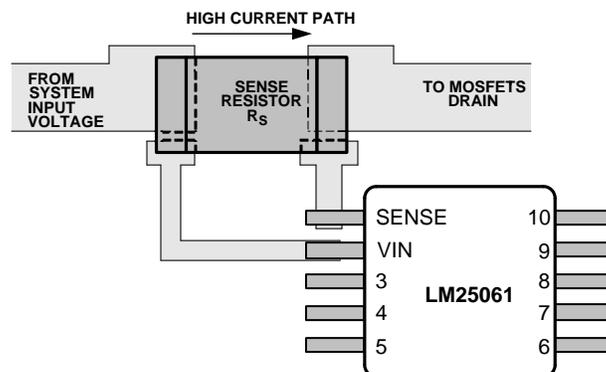

Figure 27. Sense Resistor Connections
While the maximum load current in normal operation can be used to determine the required power rating for resistor R_S , basing it on the current limit value provides a more reliable design since the circuit can operate near the current limit threshold continuously. The resistor's surge capability must also be considered since the circuit breaker threshold is approximately twice the current limit threshold. Connections from R_S to the LM25061 should be made using Kelvin techniques. In the suggested layout of Figure 27 the small pads at the lower corners of the sense resistor connect only to the sense resistor terminals, and not to the traces carrying the high current. With this technique, only the voltage across the sense resistor is applied to VIN and SENSE, eliminating the voltage drop across the high current solder connections.
- The sense resistor (R_S) should be close to the LM25061, and connected to it using the Kelvin techniques shown in Figure 27.